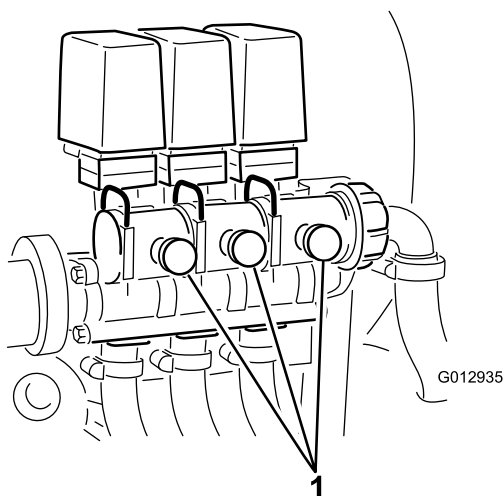

Figure 24
9. Adjust the boom bypass valve (Figure 24) on the backside of the boom control valve for the boom you turned off until the pressure reading on the gauge is the same as it was in step 7.